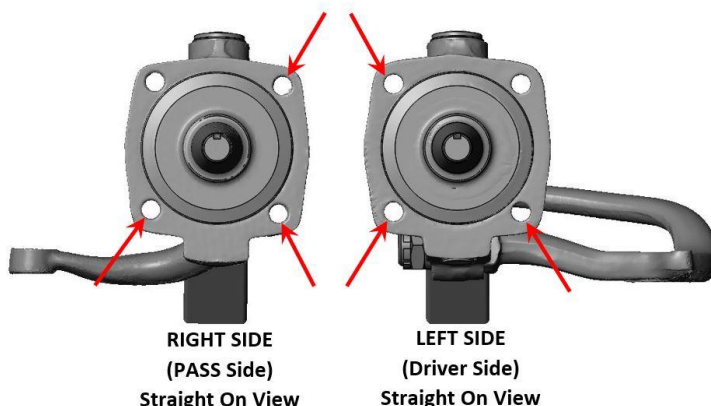

Figure 1a – Possible Drill Location Reference
4. Due to manufacturing tolerances of the OE spindles, it **COULD** be necessary to drill the 3 mounting holes at each side so that the 1/2" bolts go thru properly. We have seen some OE spindle mounting holes be machined to .498" diameter, which is just barely too small for a 1/2" bolt. Refer to figure 1a and 1b below for reference on which holes and size to drill.